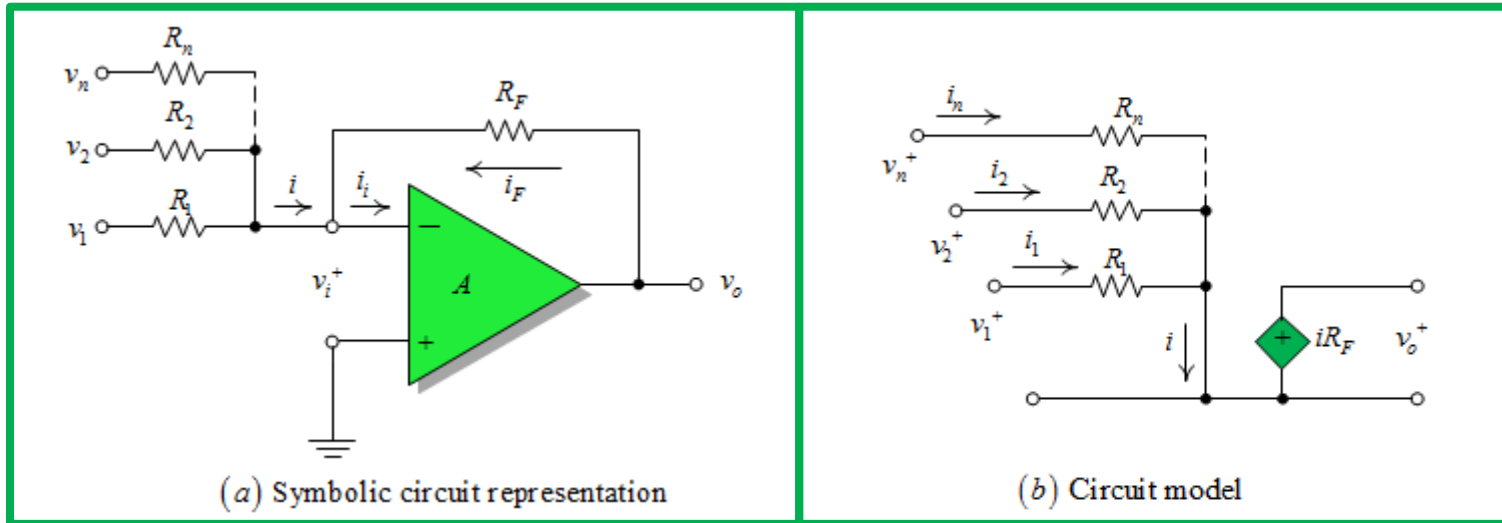

Fig. 6: A summing circuit.
- ❑ In Fig. 6, the input current is supplied by several voltages through separate resistances. In the practical case, $v_i = 0$ and $i_i = 0$ and the circuit model is as shown in Fig. 6b. The sum of the input currents is just equal and opposite to the feedback current, i.e.,